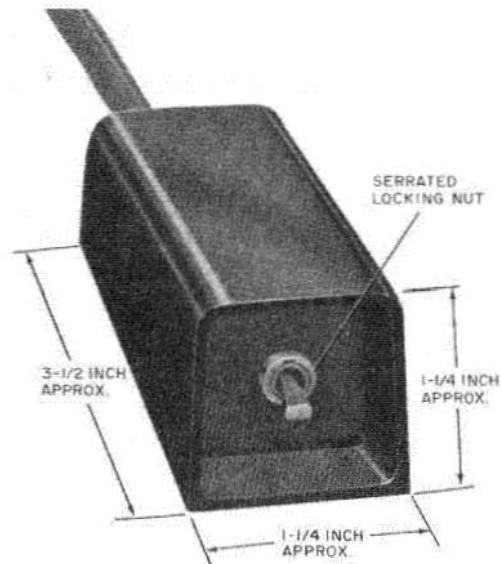

Fig. 3—KS-21254 Type Key (MD)
2.05 **KS-21254 Type Key (MD) (Fig. 3, 4, 5, or 6).**
- Consists of a toggle switch (two or four pole), flexible wiring strip with 6 or 12 screw terminals for making electrical connections, and molded plastic cover held to base by serrated locking or hex nut at front (Fig. 3) and snap fit at the rear. Cover has a simplified schematic molded inside.